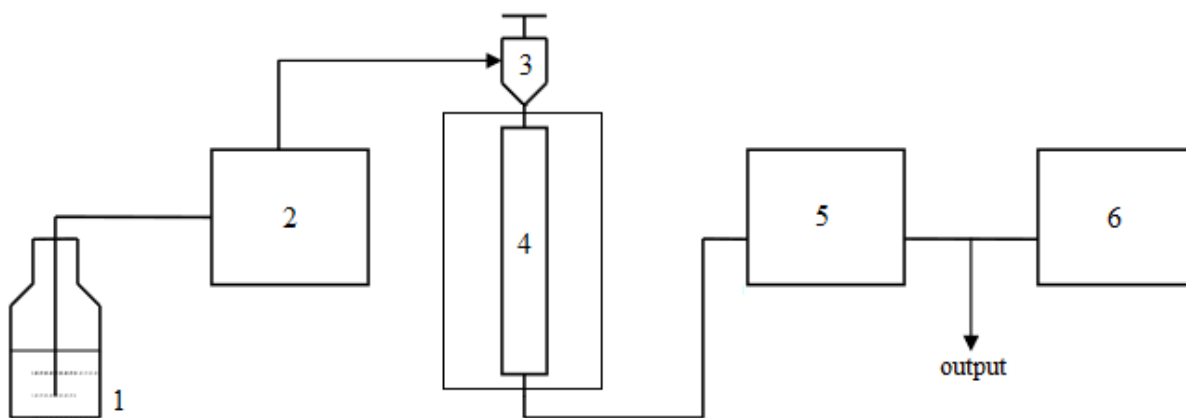

Fig. 92: Gas Chromatograph Diagram
A gas chromatograph (GC) consists of the following elements (Fig. 92):